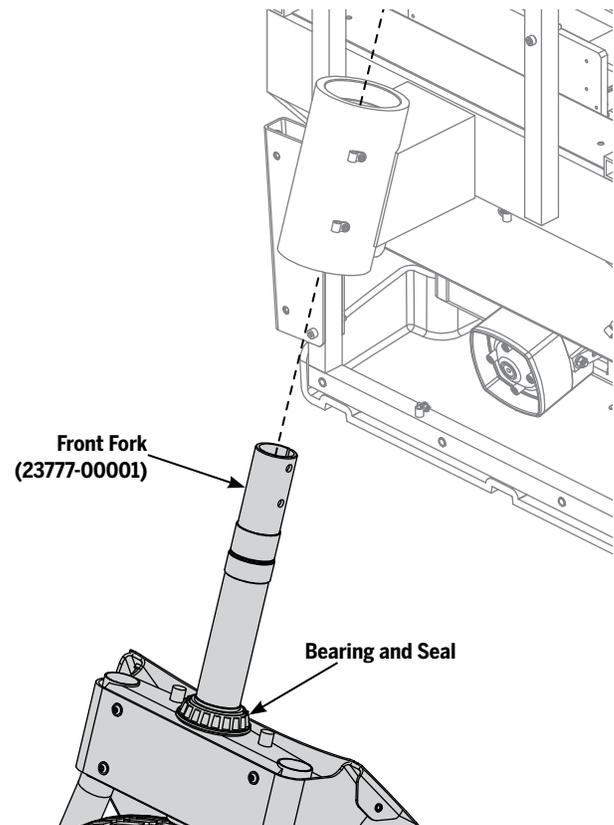

Figure 140: Front Fork Removal/Installation
5. Remove the Front Fork as shown in Figure 140.
4. Slide the Front Fork up into the frame (**Figure 140**).